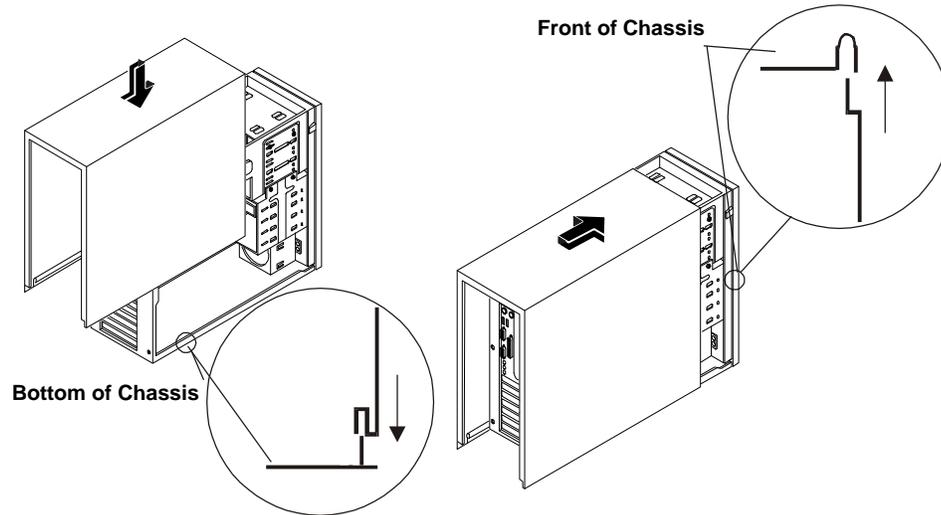

Figure 3-3. Replacing the Cover
2. Place one hand on either side of the cover and press inward lightly while lowering the cover onto the chassis. The cover has flanges that rest on the rails inside the chassis (see Figure 3-3).